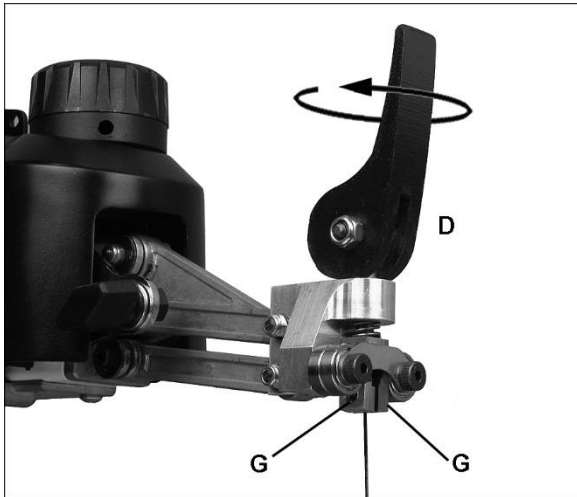

Fig 16
-Blade tension can be increased by rotating handle (D, Fig 16) clockwise by one turn.
First check that the set screws (G, Fig 16) protrude evenly into the clamping area. Adjust if needed.